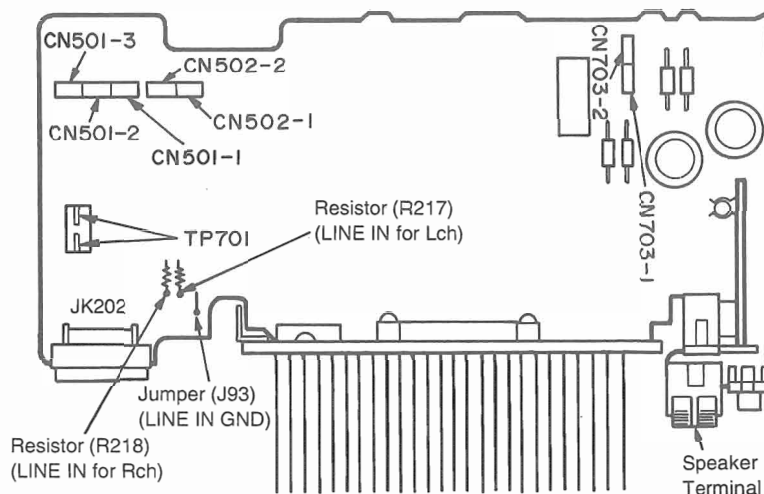

Fig. 1
Procedure 1→8→14	 <p>1. Release 3 claws (shown in Fig. 1). 2. Put a screwdriver at the root of the fan and remove it (shown in Fig. 2). 3. Remove the cap (shown in Fig. 3). 4. Remove the motor from the fan case (shown in Fig. 4). 5. When replacing the motor, align the boss of the fan case with the hole of the motor (shown in Fig. 5).</p>
2. Make test point TP701 (TP701) short as shown in Fig. 1.